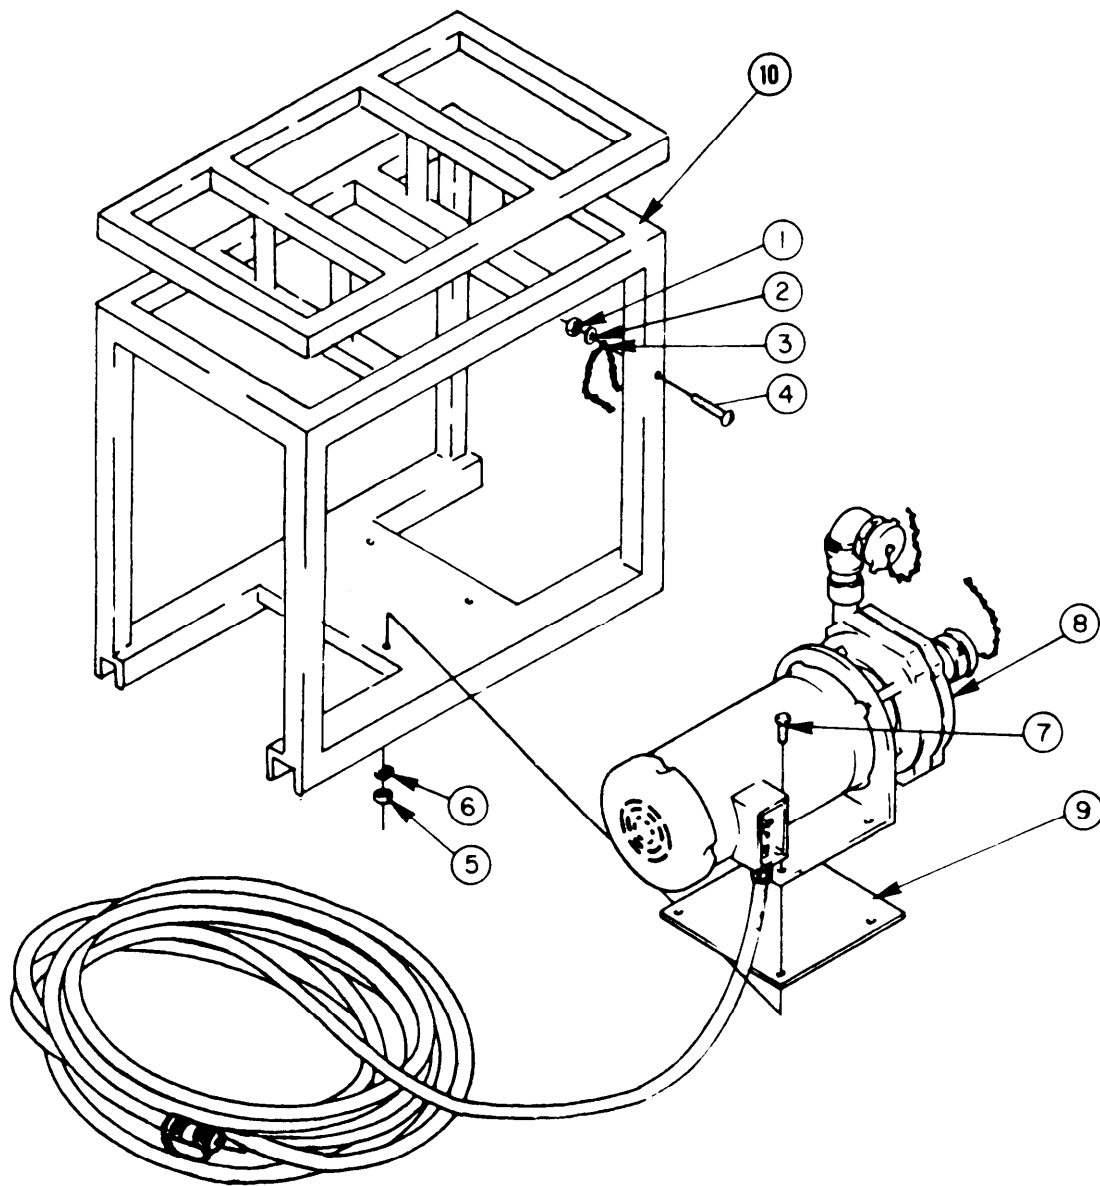

Figure 2-43. Distribution Pump Assembly
c. Distribution Pump Removal from Frame. (Figure 2-43)
- (1) If motor is to be replaced, refer to paragraph 2-42b. If not, unwrap power cable and move bulk of power cable out of the way for this operation.
- (2) Remove locknut (1) and flat washer (2) from screw (4).
- (3) Remove top cap chains (3) from screw (4).
- (4) Remove screw (4) from frame (10).
- (1) Place spacer plate (9) (figure 2-43) in frame (10) and align four mounting holes.
- (2) Place pump (8) in frame (10) and align four mounting holes of pump (8), spacer plate (9), and frame (10).
- (3) Insert four bolts (7) into pump (8), spacer plate (9), and frame (10).
- (4) Install four lockwashers (6) and four nuts (5) on bolts (7).
- (5) Insert screw (4) into frame (10).
- (6) Install two cap chains (3), flat washer (2), and nut (1) on screw (4).